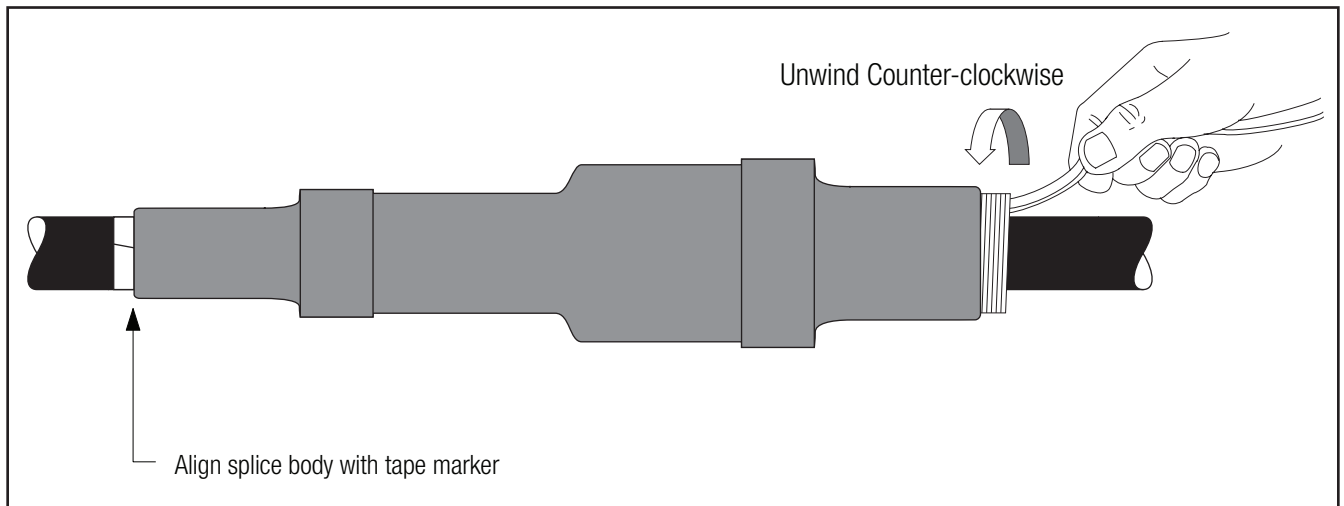

Figure 16
4.5 Position the splice body over connector area, aligning end of the splice body (not the core) at the center of the tape marker. Slowly start to remove the splice core by pulling and unwinding the loose core end counterclockwise, allowing only $\frac{1}{4}$ " (6 mm) of the splice to shrink onto the tape marker. Carefully slide the splice body off the tape marker by pulling and twisting until the entire tape marker is exposed. Continue removing the core to complete the splice body installation (Figure 16).